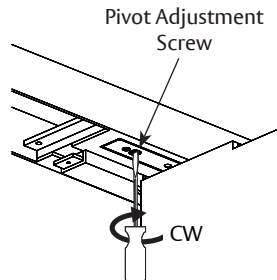

Figure 8
4. With top pivot stud aligned with door portion hole, use a flathead screwdriver to turn pivot adjustment screw clockwise to extend pivot stud into door pivot portion. (Figure 8)